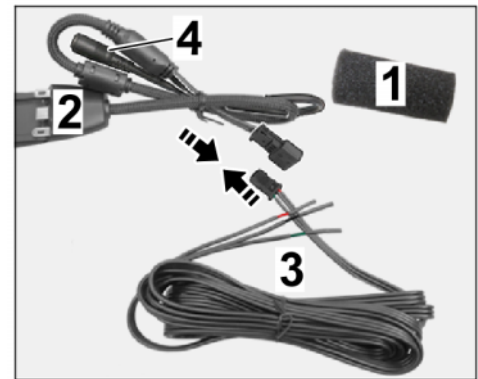

Figure 12
3.1.2 Connect plug connection (3-pin) (⇒ *Figure 12 -Arrows-*).